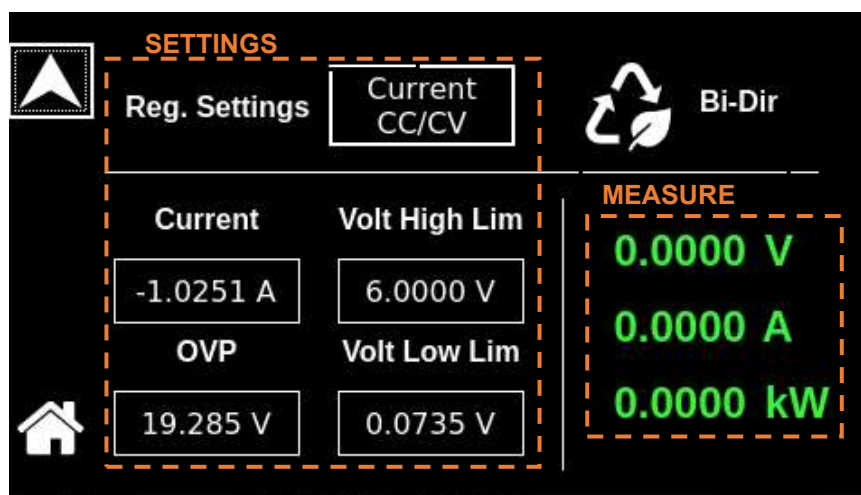

**Figure 8-10. Dashboard Screen in CC/CV Mode**
- a) **Current** - CC/CV Regulation setting is shown in Figure 8-10,